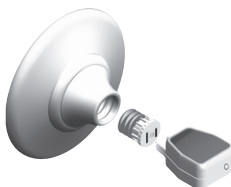

Figure 3
3. Plug the Transmitter into the BT-LFA (Figure 3).